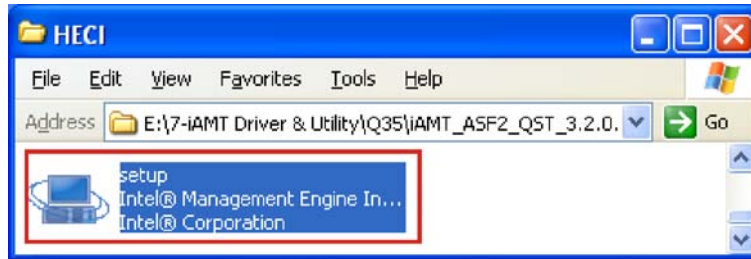

Figure 6-37: IAMT Driver Directory
Step 2: Browse to the "HECI" folder (**Figure 6-37**).